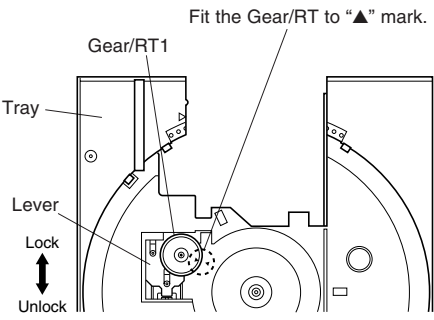

Fig. 7
- Slide the lever so that the gear/RT becomes free. (Fig.7)
- With the "▲" mark on the gear/RT aligned with the same mark on the tray, lock it with the lever. (Fig.7)